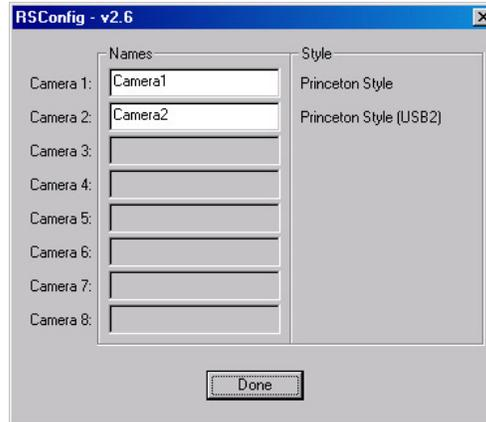

Figure 34. RSConfig dialog: Two Camera Styles
7. When the RSConfig dialog (Figure 34) appears, you can change the camera name to one that is more specific or you can keep the default name "Camera2". When you have finished, click on the **Done** button. You will next edit the generated PVCAM.INI file.